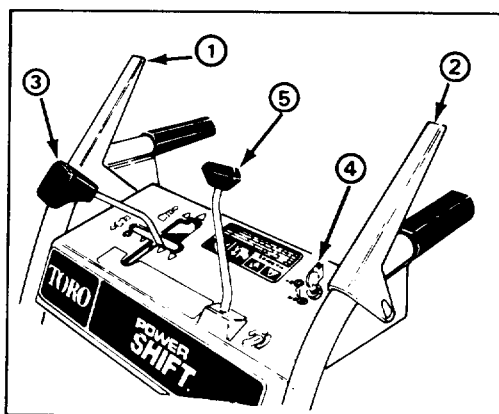

Figure 9
Auger/Impeller Control (Fig. 9)—Control has two positions: ENGAGE and DISENGAGE. To engage auger and impeller, compress lever against right handle grip. To disengage, release lever.
Traction Drive Control (Fig. 9)—To engage traction or activate power shift system, lever must be compressed against left handle grip. To stop traction, release lever.
Speed Shift Control (Fig. 9)—The control has four speeds forward and two reverse and also controls power shifting of wheels. To select speeds, move shift control to desired position.
Auger Lock-Up (Fig. 9)—When auger/impeller control and traction drive control are both compressed, the traction control locks the auger/impeller control down. Releasing the traction control releases the auger/impeller.
Discharge Chute Control (Fig. 9)—Rotate discharge chute control clockwise to move discharge chute to the right and counterclockwise to move chute to the left.
Ignition Switch (Fig. 9)—Switch has two position: ON and OFF. Rotate key to ON position before starting engine. To stop engine, rotate key to OFF.
1. Move speed shift control to N (neutral) and throttle to FAST (Fig. 9).
4. Rotate ignition key to ON (Fig. 9).
1. Release traction and auger/impeller drive controls (Fig. 9).